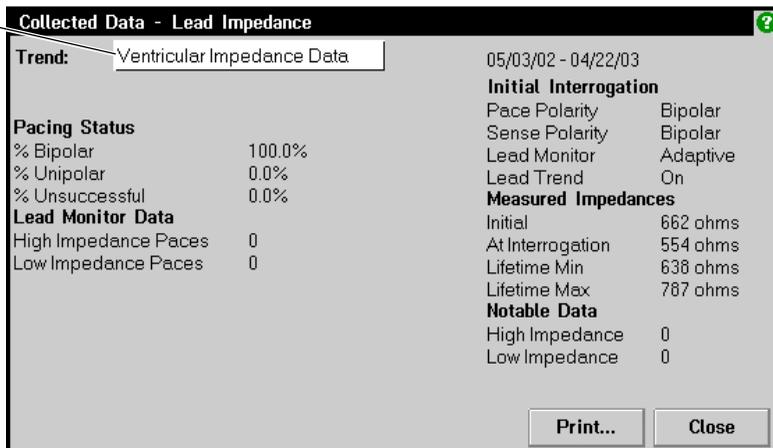

Figure 5-20. Lead Impedance Data screen
- Lead Impedance Data (Figure 5-20).